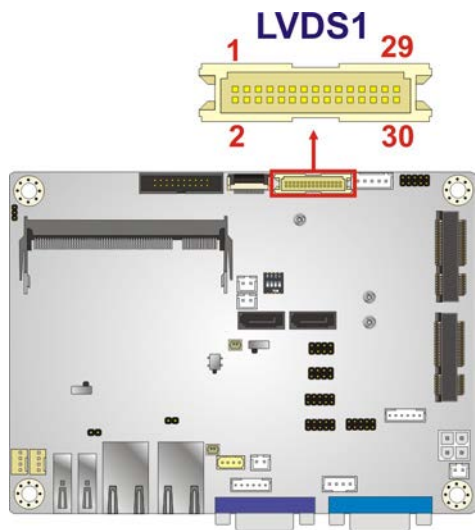

Figure 3-13: LVDS Connector Location
- CN Location:** See **Figure 3-13**